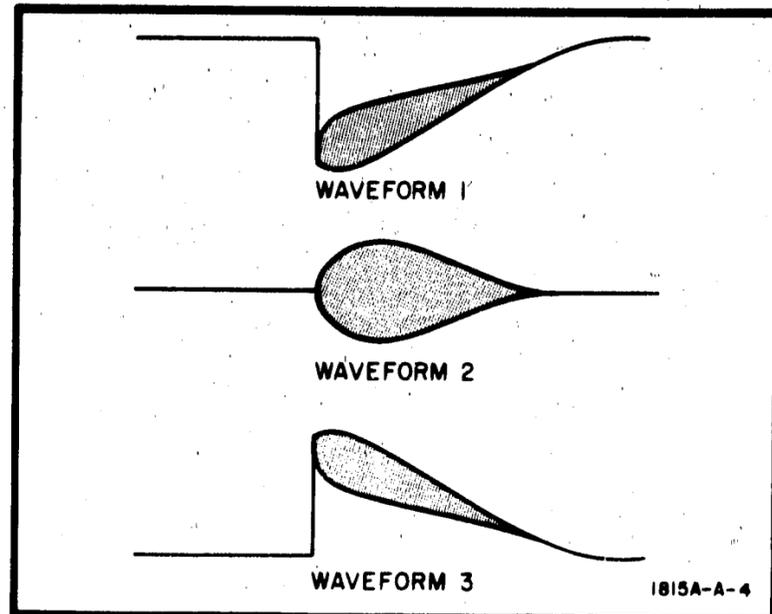

Figure 8-3. Diode Check Waveforms
- f. Adjust the Model 1817A BIAS CEN (A3R14) and RESPONSE (A3R16) and observe the monitor oscilloscope. All three waveforms shown in Figure 8-3 should be seen. If not, one or both of the sampling diodes is faulty. This test does not check for noisy diodes. The easiest way to check for excessive noise is to substitute other diodes.